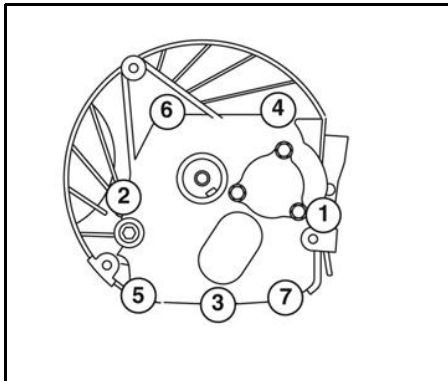
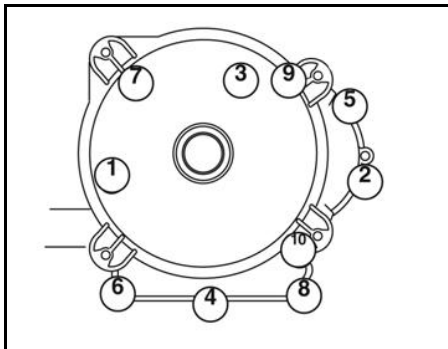

Figure 16
Figure 17
7. Install sump screws in order shown in Figure 16 and Figure 17. Torque to values listed in Section 12 - Engine Specifications.
NOTE: The screw at position four or position nine (Figure 16 or Figure 17) was factory coated with sealant. Coat screw with a non-hardening sealant, such as Permatex® 2 or equivalent, before installing.